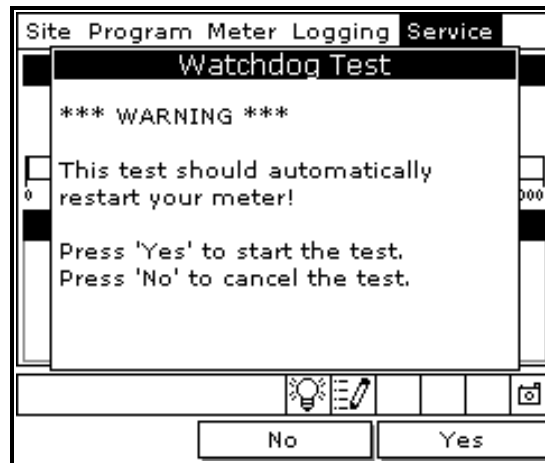

Figure 64: Watchdog Test Screen
- Use the arrow keys to scroll to Watchdog Test and press **[ENTER]**. The screen appears similar to Figure 64.